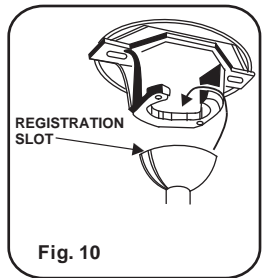

Fig. 10
Step 7. Now lift motor assembly into position and place hanger ball into hanger bracket. Rotate until the check groove has dropped into the registration slot and seats firmly. (Fig. 10) Rod should not rotate if this is done correctly.